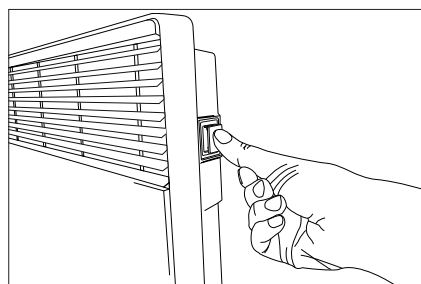

FIG:8
- Once the key is located into the T slot, push the key home until it is flush (see fig 8). Once the key is fitted the heater will be able to operate when the thermostat is calling for heat.